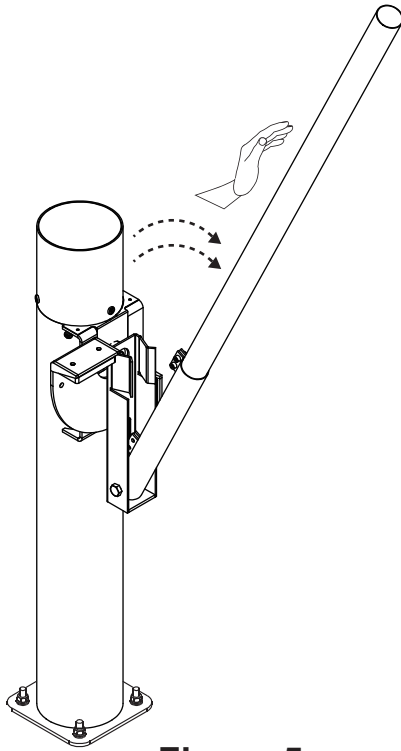
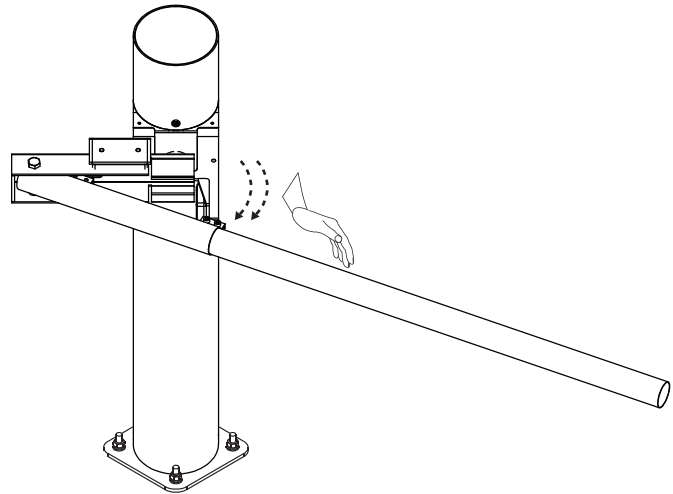

Figure 5
Figure 6
Directly push the rod out. Then manual release could be unlocked. Figure 5 shows manual release unlock way when boom barrier is in open final position, Figure 6 shows manual release unlock way when boom barrier is in close final position.
Step 3. Manual release the boom barrier as shown in the figure 5.